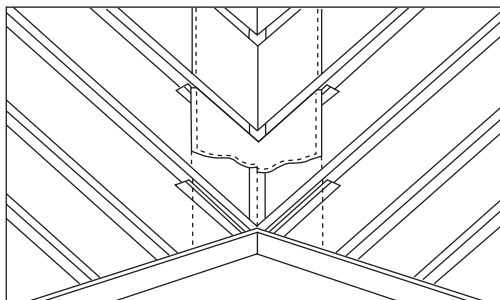

Fig 1 - Construction of valley boards
- 1 In all cases valley boards should be fitted. Valley boards may be inset or continuous over the rafters. Where they are inset, they should be a maximum of 12mm thick and supported on bearers or noggings of 50 x 25mm or similar and set at a depth to suit the thickness of the Valley Board (Fig 1).